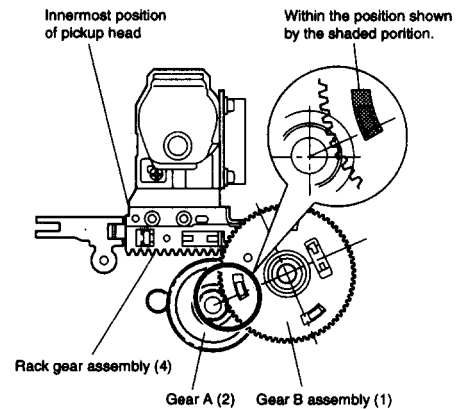

Fig. 2-5-3
2. Mount the gear B assembly (1) by pushing the pickup head (5) to the disc motor side (arrow A direction) and shifting the upper gear of the rack gear assembly (4) in the arrow B direction.
3. Fit the positioning holes on the upper gear and lower gear of the gear B assembly (1) and mount on the pickup mechanism assembly with the phase matched. At this time, note that the phase of the gear B assembly (1) and the gear A (2) show's the status in the Fig. 2-5-3.